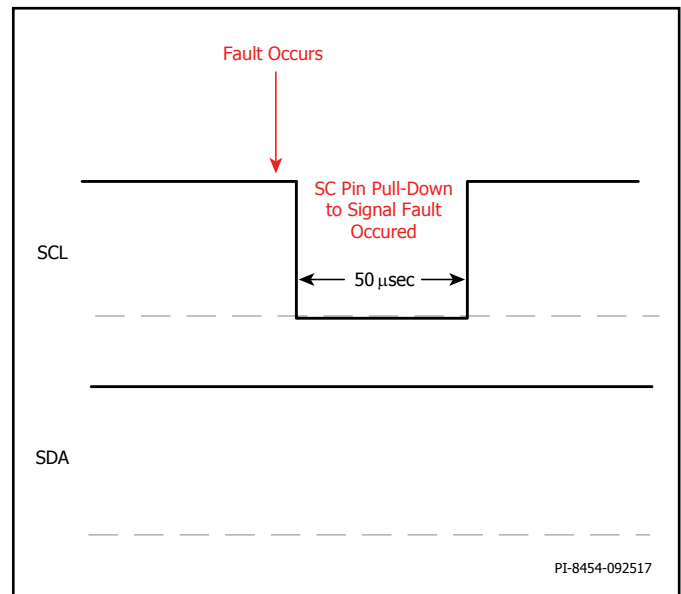

Figure 17. Interrupt Mask During Idle I2C.
1. When the SCL pin is in idle mode (see Figure 17), the fault interrupt will happen as soon as the fault is detected. The interrupt pulls down the SCL pin for 50  $\mu$ sec then releases it back to HI State.